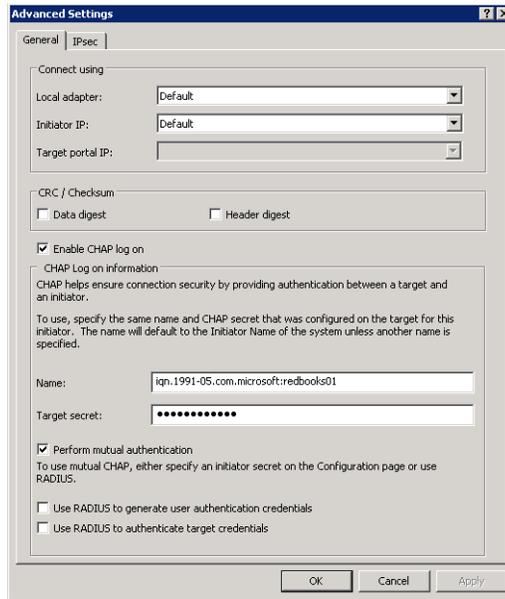

Figure 4-42 Configuring CHAP security
- If you are using CHAP authentication to secure your target, click the **Advanced** option to set the target CHAP secret key, as shown in Figure 4-42.